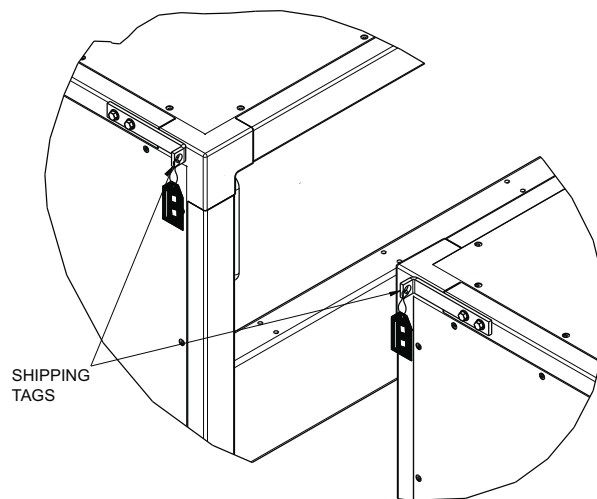

Fig. 25 — Location of Single Point Power Harness Split Tags
4. Remove shipping cover. If section has a Single Point Power harness split tags (Fig. 25), verify that the downstream section has split tags for the power plug connectors.